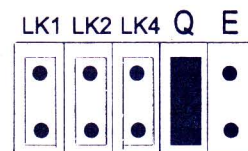

Fig.14
1. Fitting link "Q" will disable the green flashing LED as in fig.14